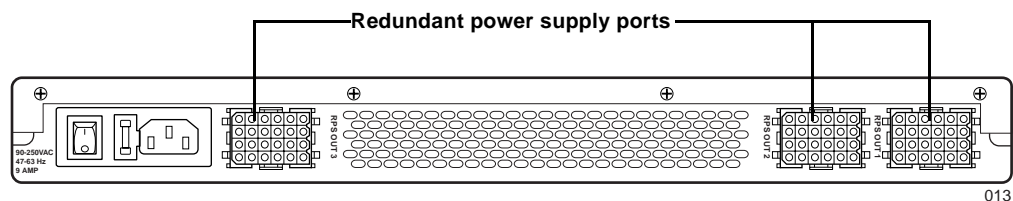

Figure 2-6 Redundant Power Supply Back Panel
5. **Connect each ACEdirector to the redundant power supply port (Figure 2-6).**